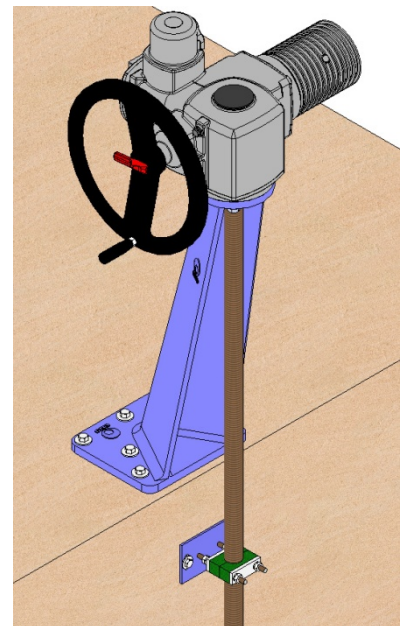

fig. 10
- Option of leaning floor stand (fig. 10).